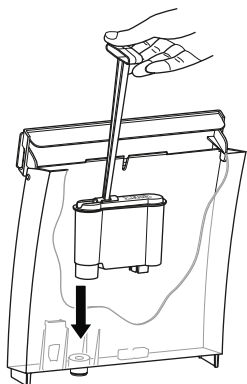
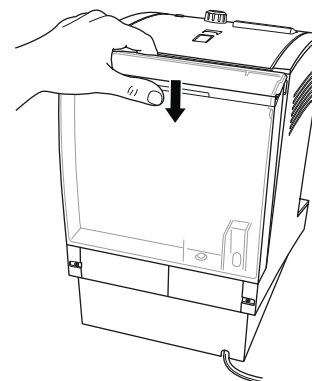

Fig. 2: Inserting the water filter
Fig. 3: Inserting the water tank
7. If desired, insert the "Limpid" water filter into the water tank (Fig. 2) the water tank with cold drinking water up to the „Max" marking and insert it into the device (Fig. 3). Here, note that the water tank hooks into the top of the device and lies close against the device.